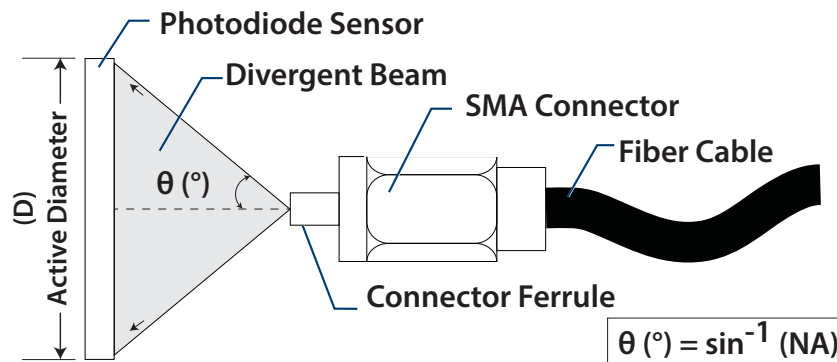

Figure 2-40. Sensor Placement for Divergent Beam
10. Position the sensor close enough to the photo-diode sensor so that the divergent beam is not clipped, as shown in Figure 2-40.